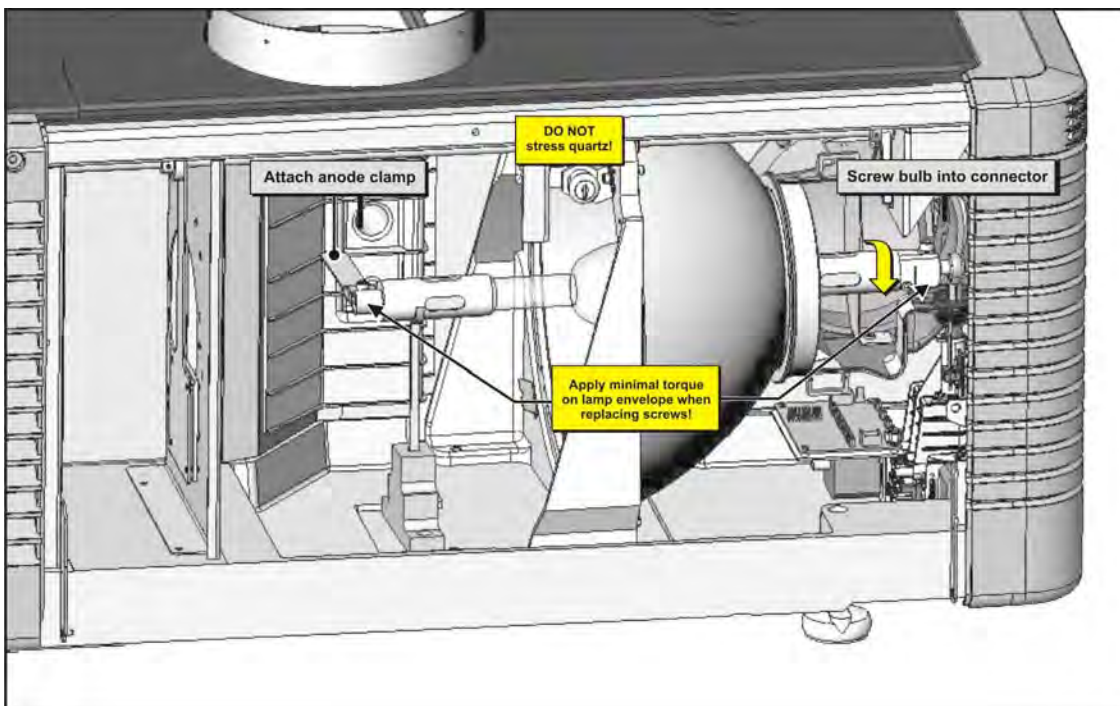

Figure 5-59 Install New Lamp
- c. Insert the threaded cathode (-) end of the lamp into the negative lamp connector nut located in the rear of the lamp compartment. **(Figure 5-59)** Using both hands, hand-tighten this end into the threaded nut. **CAUTIONS! 1) Handle the lamp by the cathode/anode end shafts only, never the glass. DO NOT over-tighten. DO NOT stress the glass in any way. 2) Check leads. Make sure the anode (+) lead between the lamp and igniter is well away from any projector metal such as the reflector or firewall.**
- d.  **EXPLOSION HAZARD! DO NOT apply torque to the anode end of the lamp.** Rest the anode (+) end of the lamp on the anode yoke and slip the positive lamp connector over the bulb end. **(Figure 5-59)** Using the 5mm Allen key, squeeze together with the anode clamp making sure not to place any torque on the lamp quartz tube.